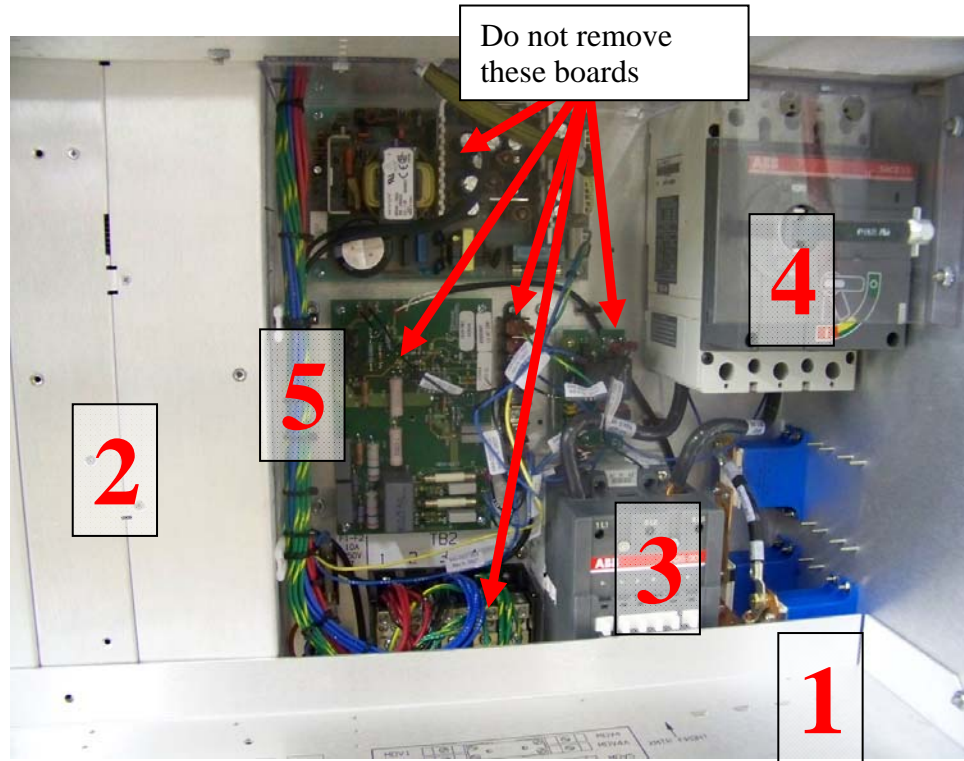

Figure 1. Single phase Power supply cabinet
5. Remove the ABB contactor – K2 (#3 in Figure 1)
- 10.1. Cut the two wire ties holding the power supply harness (#5 in figure 1) to the wire guides.